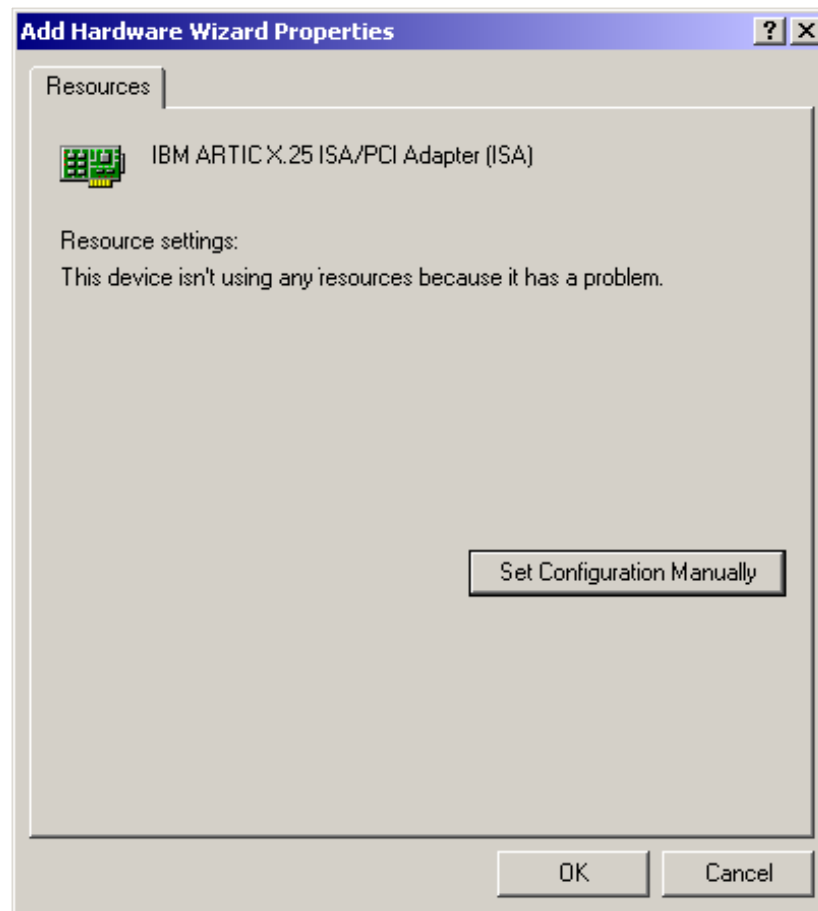

FIGURE 197. Add Hardware Wizard Properties - Resources window
32. This will open the Resources window as seen in Figure 197.